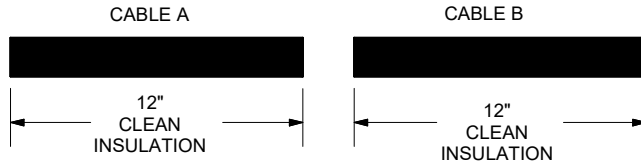

Figure 1
1. Thoroughly clean the cable insulation. Clean 12" of Insulation on Cable "A" and 12" of insulation on Cable "B". See Figure 1.